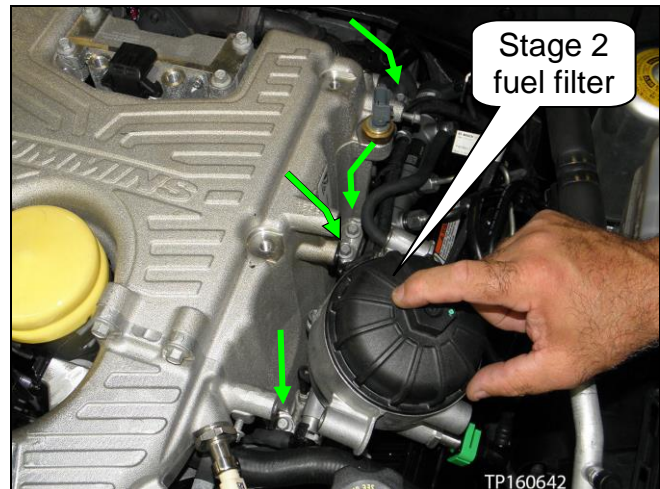

Figure 38
28. Remove the eight (8) intake manifold bolts, and then carefully remove the intake manifold assembly.
- See bolt locations in Figure 38 and 39.